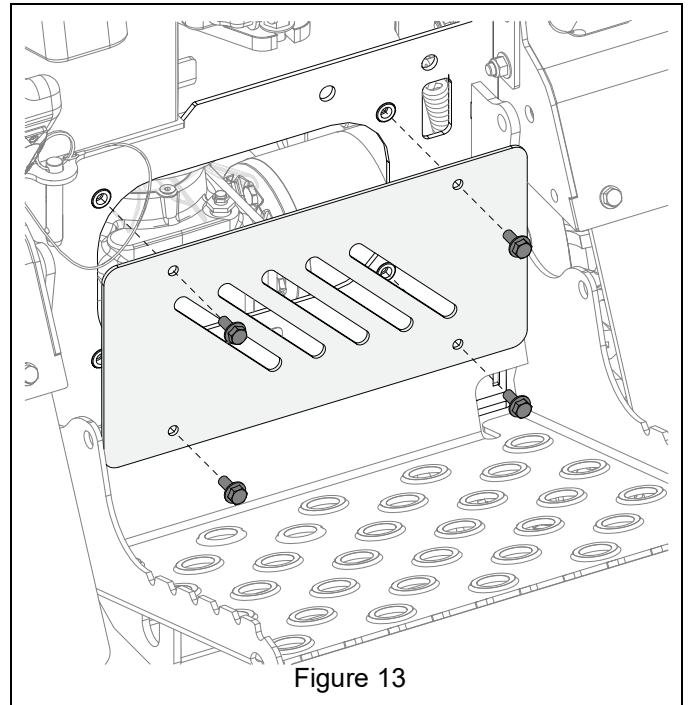

Figure 13
11. Reinstall access panel using hardware removed earlier. See Figure 13.